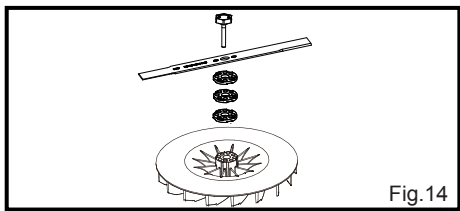

Fig.14
Blade Maintenance (See Fig. 14)
- Wear sturdy gloves and hold the blade firmly. Loosen the bolt with the spanner provided (Fig. 14).